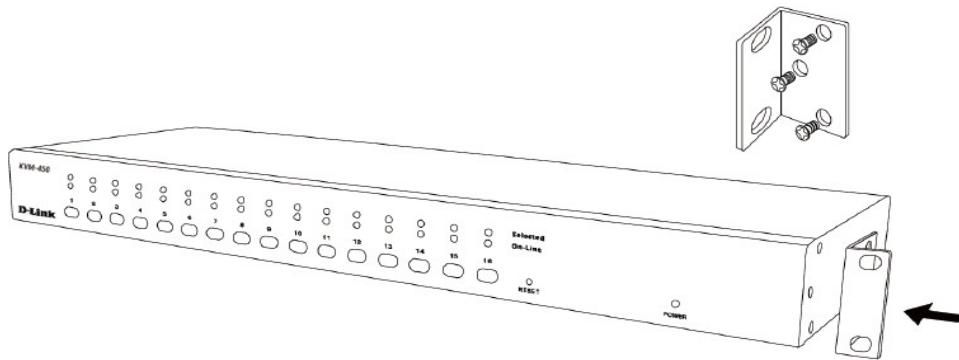

Figure 11: Rack mounting
Figure 11 shows you how to attach mounting brackets to the KVM switch unit for a standard 19-inch rack cabinet.
1. Attach the mounting brackets onto both sides of the KVM switch unit using screws. (See Figure 11)